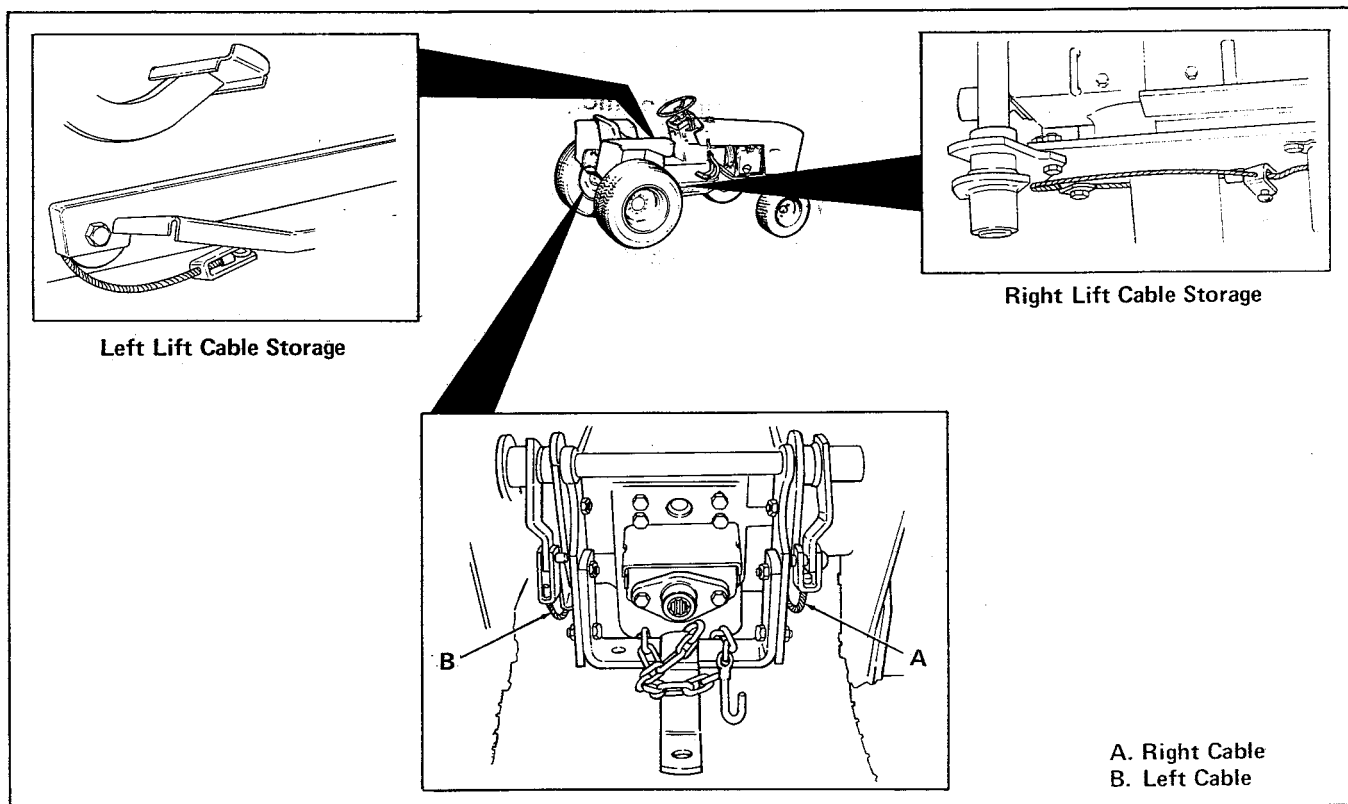

Figure 2. Cables Attached to Lift
2. Disconnect right and left lift cables from storage points on tractor. (See figure 2.)